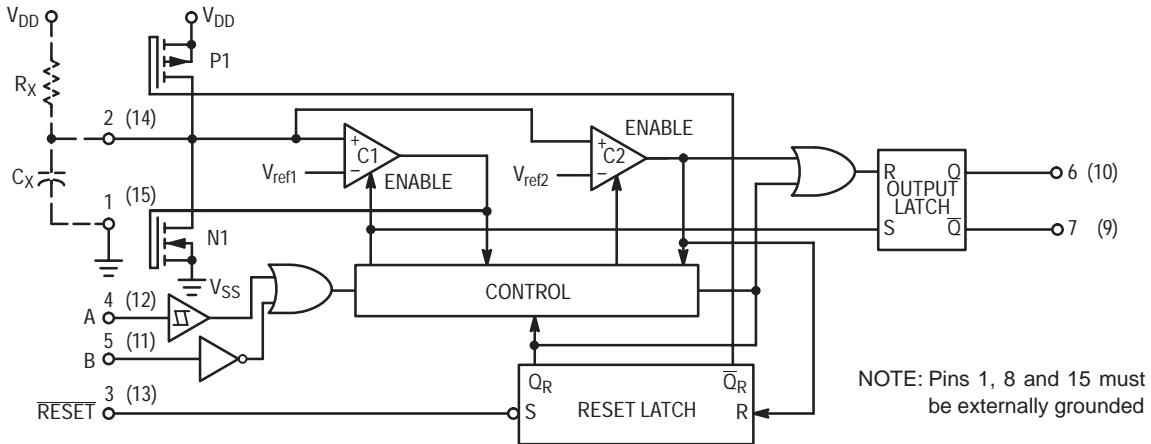

Figure 1. Logic Diagram
The block diagram of the MC14538B is shown in Figure 1, with circuit operation following.
As shown in Figure 1 and 10, before an input trigger occurs, the monostable is in the quiescent state with the Q output low, and the timing capacitor C_X completely charged to V_{DD}. When the trigger input A goes from V_{SS} to V_{DD} (while inputs B and $\overline{\text{Reset}}$ are held to V_{DD}) a valid trigger is recognized, which turns on comparator C1 and N-channel transistor N1. At the same time the output latch is set. With transistor N1 on, the capacitor C_X rapidly discharges toward V_{SS} until V_{ref1} is reached. At this point the output of comparator C1 changes state and transistor N1 turns off. Comparator C1 then turns off while at the same time comparator C2 turns on. With transistor N1 off, the capacitor C_X begins to charge through the timing resistor, R_X, toward V_{DD}. When the voltage across C_X equals V_{ref2}, comparator C2 changes state, causing the output latch to reset (Q goes low) while at the same time disabling comparator C2. This ends at the timing cycle with the monostable in the quiescent state, waiting for the next trigger.